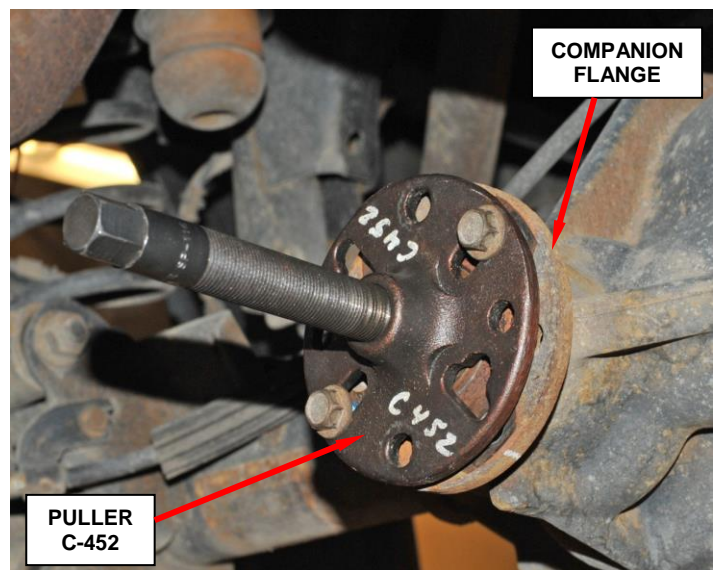

Figure 11 – Companion Flange Puller C-452
b. Use Position Holder 6719A to hold the companion flange and remove the pinion nut (Figure 11).
d. Remove the companion flange with Puller C-452 (Figure 11).